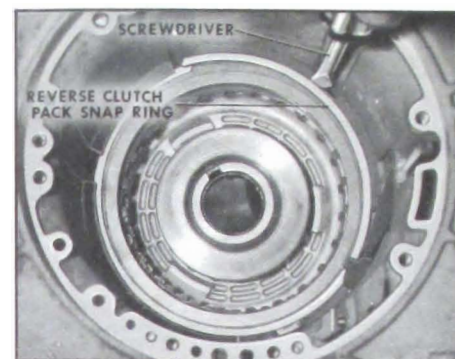

Figure 5-148
1. Place transmission in vertical position and remove reverse clutch pack snap ring with screwdriver. See Figure 5-148.